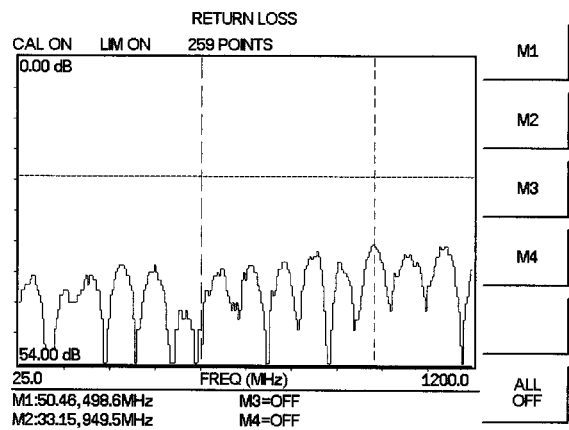

Figure 4-5. Cable Return Loss Measurement Results
**Step 17.** Observe the displayed measurement. Figures 4-5 and 4-6 show typical SWR and Return Loss measurements with markers and limit line set.
- Step 25.** Repeat steps 22 and 23 for marker M2. Set M2 to 950 MHz (Figures 4-5 and 4-6 depict the Return Loss and SWR measurements).